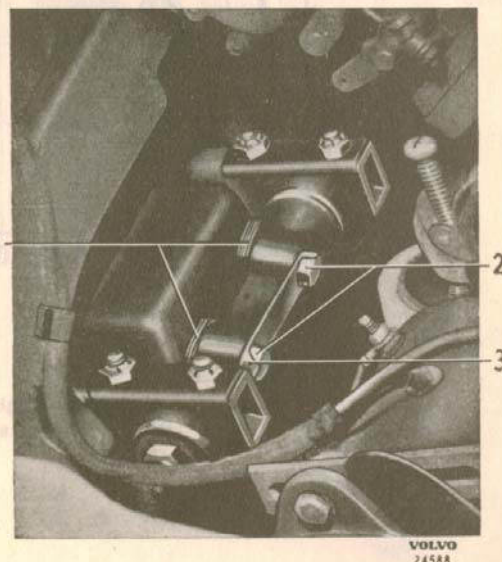
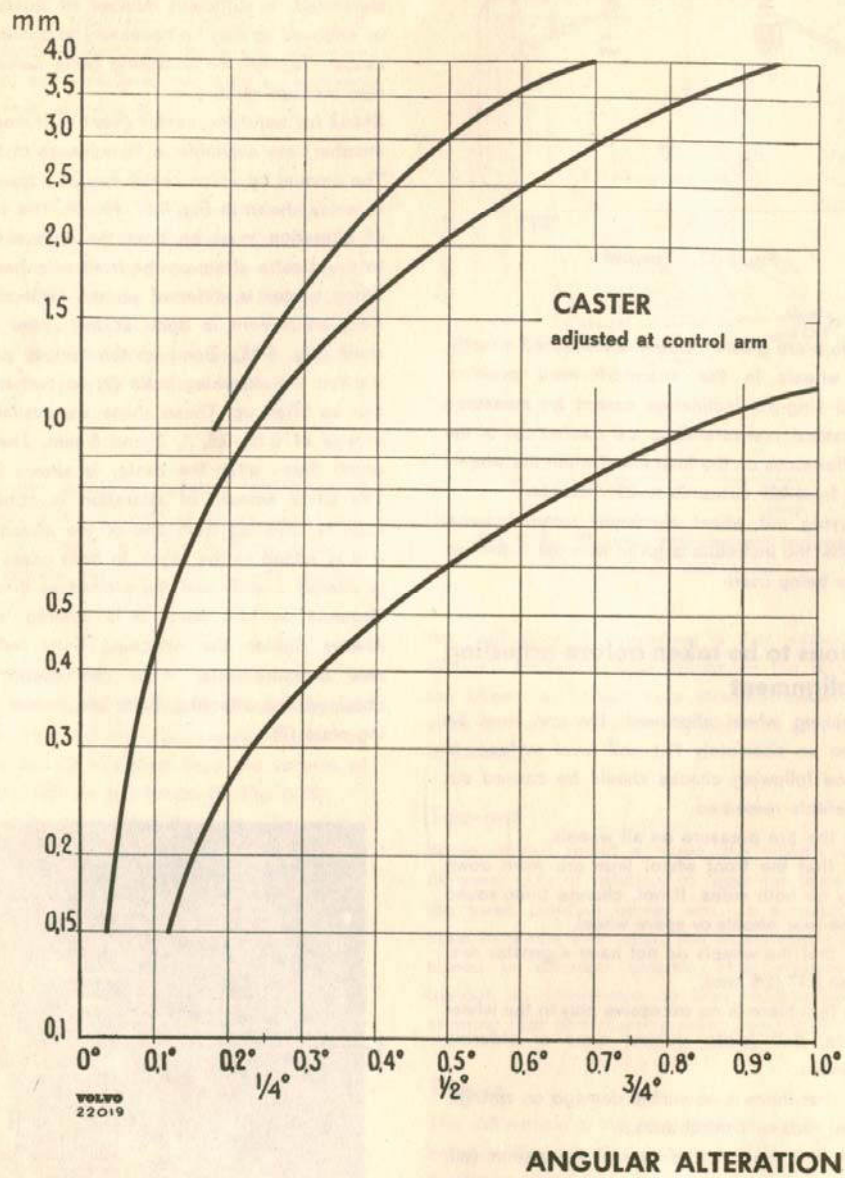

Fig. 6-38. Upper control arm attachment
Fig. 6-39. Diagram for camber and caster adjustments
When caster is different on the right and left-hand side, adjustment is done at the upper control arm shaft (Fig. 6-38). Bend up the locking plate (3) and slacken the attaching bolts (2) so that the shims (1) can be lifted up. These shims are available in thicknesses of 0.15, 0.5, 1, 3 and 6 mm. The amount by which these alter the caster is shown in Fig. 6-39. The same amount of alteration is obtained if one shim is removed from one of the attaching bolts or if it is added to the other. In both cases the camber is altered slightly and the procedure therefore partly depends on how much it is desired to alter this. Always tighten the attaching bolts before making new measurements. When the correct caster is obtained, the attaching bolts are locked with a locking plate (3).
The camber angle should be 0° to $+1/2^{\circ}$. The camber is adjusted by means of shims at the upper control arm shaft (Fig. 6-38). Bend up the locking plate (3) and slacken the attaching bolts (2) so that the shims (1) can be lifted up. By increasing the number of shims a more negative camber is obtained and by decreasing the shims a more positive camber is obtained. Shims are available in thicknesses of 0.15, 0.5, 1, 3 and 6 mm. The amount by which the shims alter the camber is shown in Fig. 6-39.